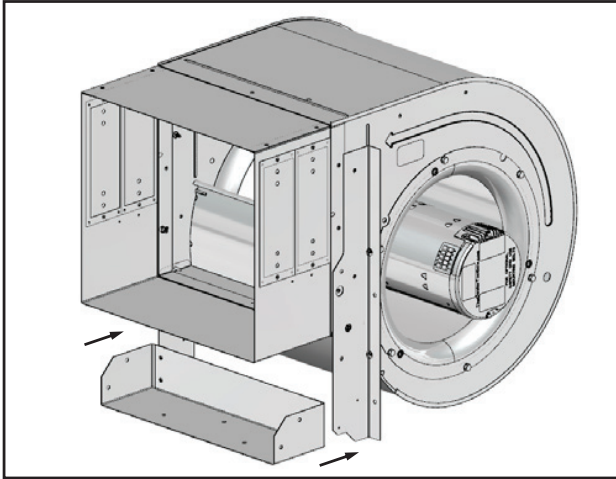

Fig. 44 - Slide Blower Assembly Away from Mounting Bracket
4. Slide blower assembly away from mounting bracket. See Fig. 44.